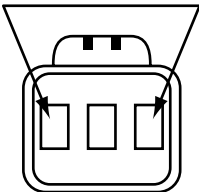

Figure 10-13 1985½–89 I-Mark, 1990 and later Impulse jump wire
- Jump pins as shown in Figure 10-13.